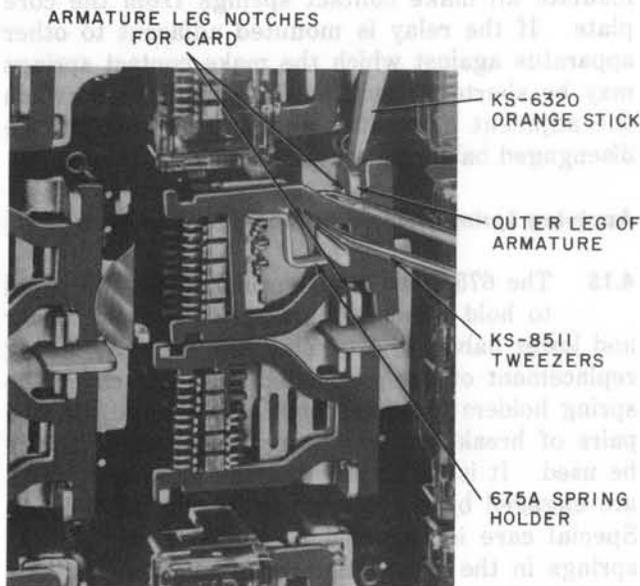

Fig. 28—Disengaging Card From Armature Legs
4.17 Apply the KS-6320 orange stick to the right side of the outer leg of the armature behind the card and hold the armature in the unoperated position as shown in Fig. 28. With the KS-8511 tweezers, grasp the upper section of the card as shown in the figure and move the card to the right to disengage it from the armature leg notches. Pull the card forward so it is in front of the armature legs. Remove the orange stick from the armature.
4.21 Make sure that the circuit designation has been stamped on the new card as covered in 4.08. With the black surface of the new card uppermost and the two notches for the balancing spring legs at the left, grasp the card at the upper notch with the KS-8511 tweezers. Place the card, black surface outermost, on the relay so the fixed contact springs are between the two vertical parallel sections of the card. Engage the card on the armature legs as follows. Apply the KS-6320 orange stick to the right side of the outer leg of the armature behind the notch for the card and hold the armature in the unoperated position (see Fig. 28). Grasp the upper section of the card with the tweezers and move the card to the right and back so the card is in line with the notch in each armature leg. Remove the orange stick from the armature and guide the card into the notches.
(b) Disengage the card from the armature legs as follows. Apply the KS-6320 orange stick to the right side of the outer leg of the armature behind the card and hold the armature in the unoperated position (see Fig. 28). Grasp the upper section of the card with the KS-8511 tweezers and move the card to the right and outward to disengage it from the armature legs. With the orange stick applied to the right side of the card, hold the card as far as possible to the left. Grasp the bottom handle of the holder, swing it outward, and carefully withdraw the notched section through the gap between the make contacts. Release the card.
(c) Remount the card in the armature leg notches as follows. Apply the KS-6320 orange stick to the right side of the outer leg of the armature behind the notch for the card and hold the armature in the unoperated position (see Fig. 28). Grasp the upper section of the card with the KS-8511 tweezers, and move the card to the right and back so the card is in line with the notches in each armature leg. Remove the orange stick from the armature and guide the card into the notches.